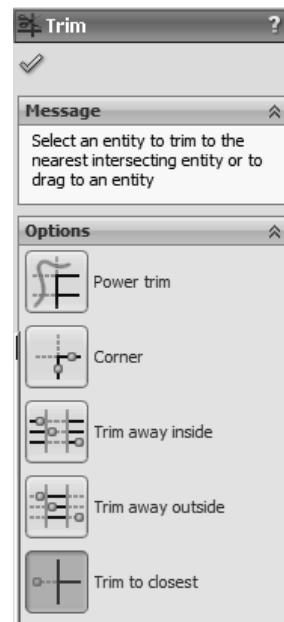

Figure 3-7 The **Trim PropertyManager**
19. Choose the **Trim Entities** tool from the **Sketch CommandManager**; the **Trim PropertyManager** is displayed on the left of the drawing area, refer to Figure 3-7.